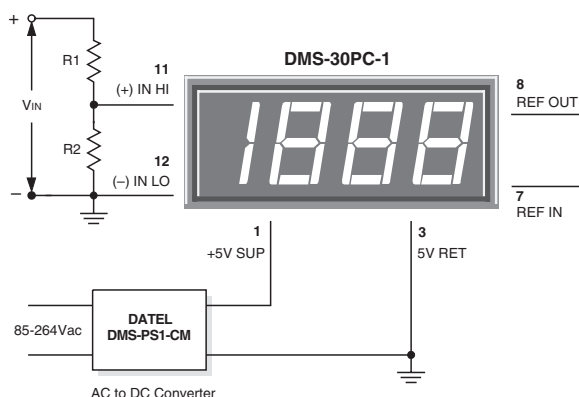

Figure 4. Input Attenuation Circuit
- 3. Engineering Scaling:** For measuring voltages greater than the full scale input range of a given meter, the input signal must be attenuated. A simple voltage divider (similar to that shown in Figure 4) will scale the input to within the range of the selected meter. R1 and R2 should be precision, $\pm 1\%$, metal-film resistors with absolute TCR's less than 50ppm/°C. See Ap Note 4 for more information on engineering scaling.